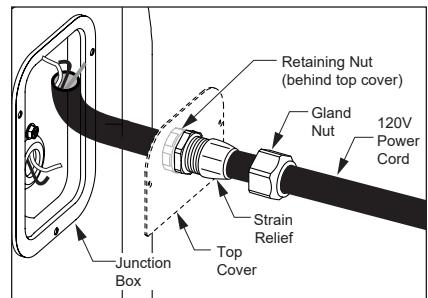

Figure 49 - Install Power Cord Through Strain Relief
- 11** Secure the retaining nut and strain relief to the top cover. Keep the gland nut loose to adjust the amount of slack needed to allow for proper wire connection at the junction box (see Figure 49).